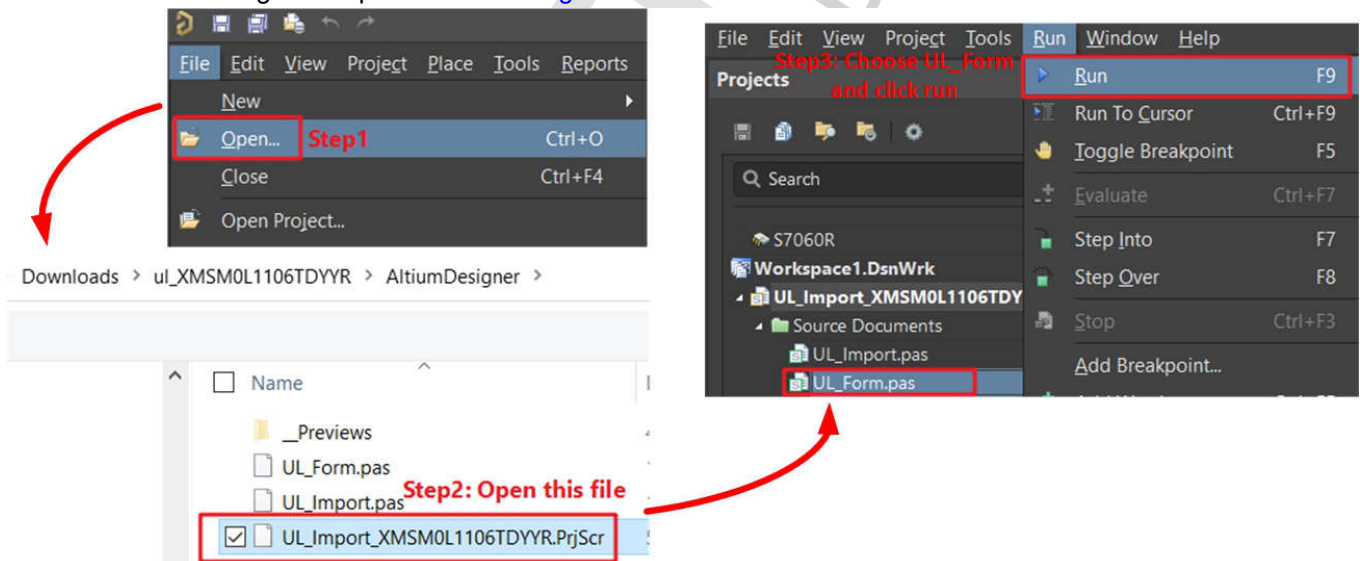

Figure 6-14. Run Altium Designer Script
4. Run Altium Designer script as shown in Figure 6-14.